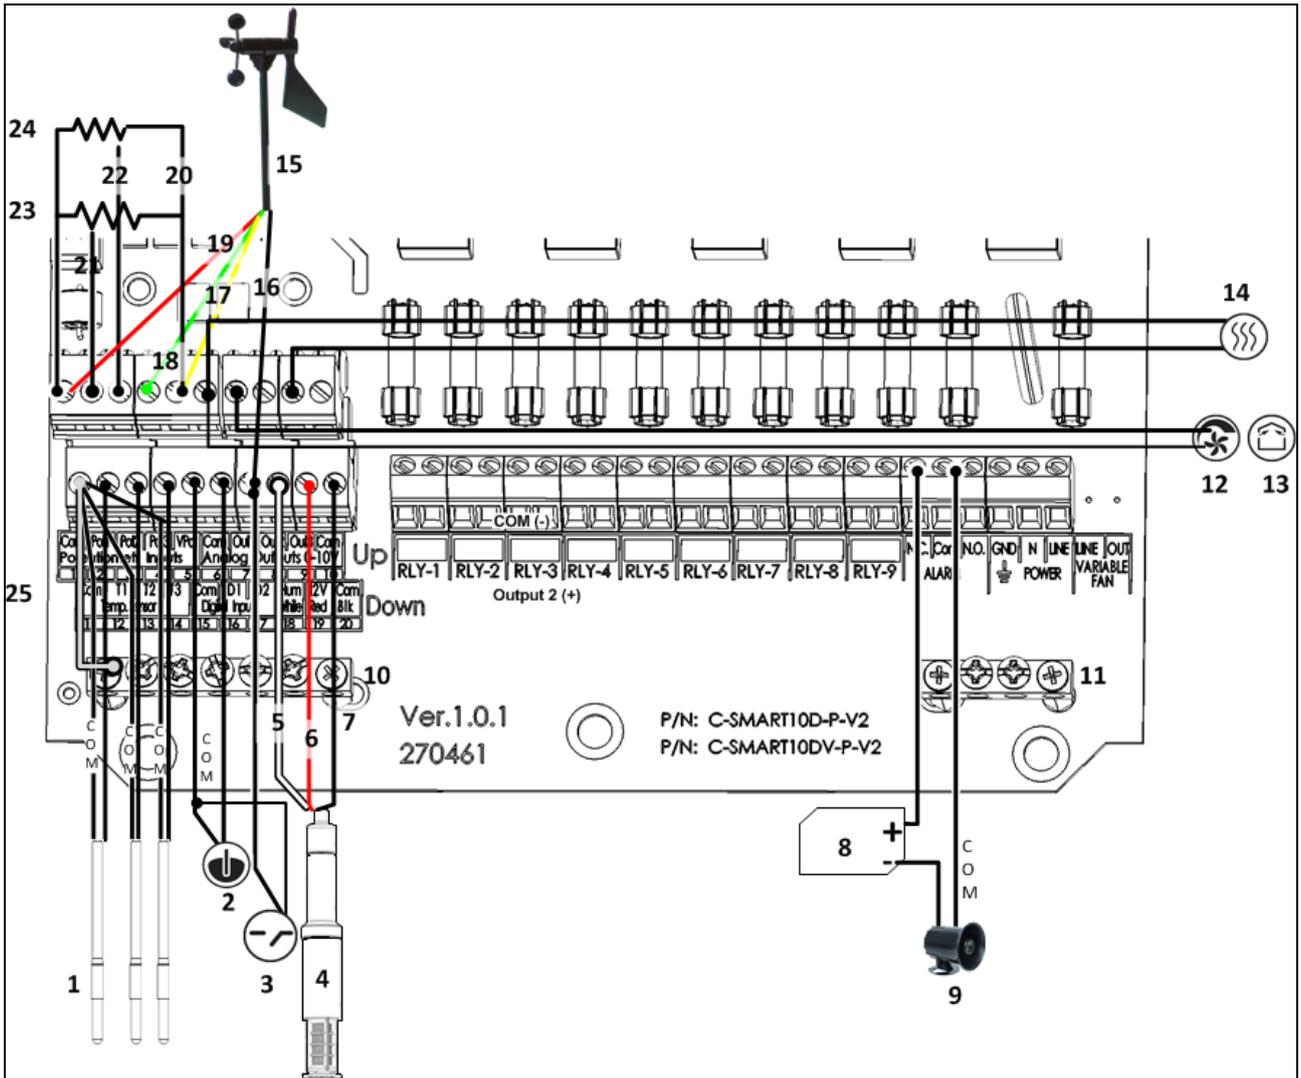

Figure 12: Smart D Wiring Diagram of Low Voltage Section
Figure 12 key
- Install temperature sensors as shown in Figure 3 and Figure 12.
- Using this function requires an installed humidity sensor. Refer to Figure 3 and Figure 12.